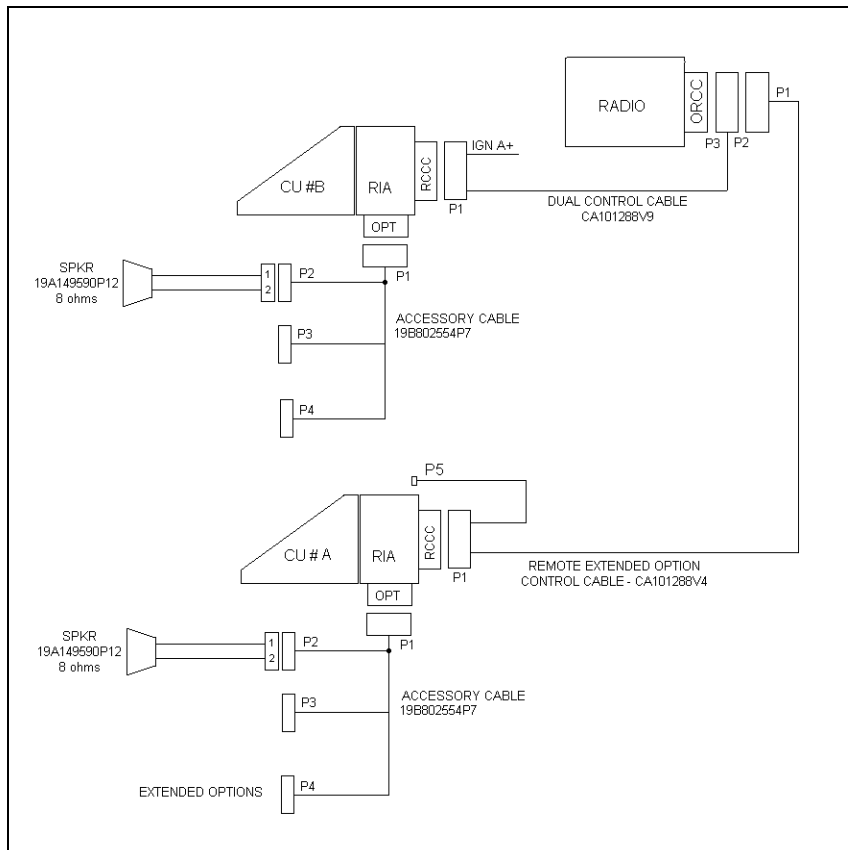

Figure 10-7: M7100^{IP} Dual Control Unit Remote/Remote Mount Installation Configuration – Parallel Audio
11. Main Control Unit Speaker: Connect the lead nearest the speaker to Pin 87 of the relay. Connect the lead nearest the connector to Pin 30 of the relay. Connect connector to the accessory cable P2 (refer to Figure 10-7).
12. Auxiliary Control Unit Speaker: Connect the lead nearest the speaker to Pin 87A of the relay. Connect the lead nearest the connector to Pin 30 of the relay. Connect the connector to accessory cable P2 (refer to Figure 10-7).
a mating Molex connector and pins on the accessory cable side. Connect the mating Molex connector to the accessory cable P3 when finished (refer to Figure 10-7).
14. For Each Relay: Connect one end of a #18 AWG red wire to the relay, Pin 86. Cut the lead to length, and connect the other end to the 1 amp fuse holder supplied. Use crimp on connectors supplied. Connect the other side of the 1 amp fuse holder to the A+ battery source or a vehicle A+ fuse block. Use a #18 AWG red wire and a ring lug supplied, if needed (refer to Figure 10-7).